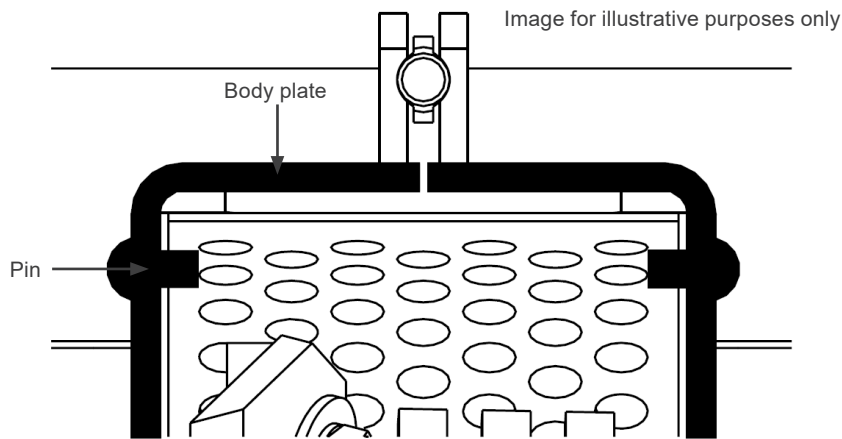

Figure 7.2: Correct assembly of the screens
- With the shredder turned off and the necessary precautions taken, open the shredder cover (7) to access the screen.
- To replace it, the screen must be mounted between the pin and the shredder body plate, as shown in Figure 7.2 on page 134.